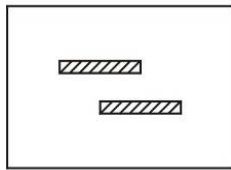
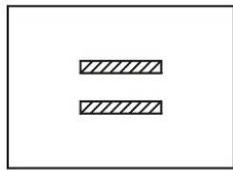
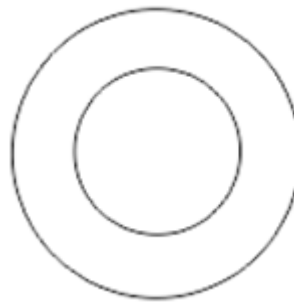

Fig.52
Fig.53
Fig.54
(1) Horizontal Phoria
If the patient has no presbyopia, set the results of phoria tested at far point in aperture. If the patient has presbyopia, put the results on the near point test. Set the near point card at 40cm, and turn auxiliary lens knob ②① to set the right eye at 6ΔU so that letter rows are fully separated. If the patient has horizontal phoria, it will be shown as Fig.52. Turn rotary prism ①② to the other eye, with 0 scale upward.(see Fig.54) Turn prism rotation knob ①① so that there is no difference between the left and right eyes and, at this time, scale of the rotary prism indicates prism power(see fig.53).